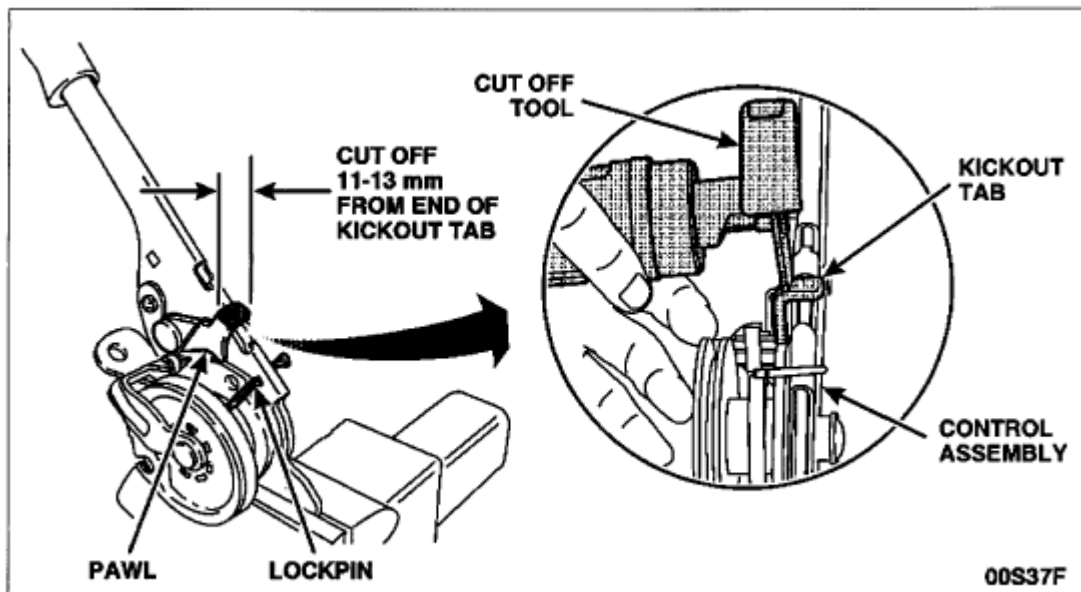

FIGURE 6
3. Using a suitable cutoff tool, remove 11-13 mm from the end of the kickout tab on the self-adjust pawl. Remove any burrs. See Figure 6.